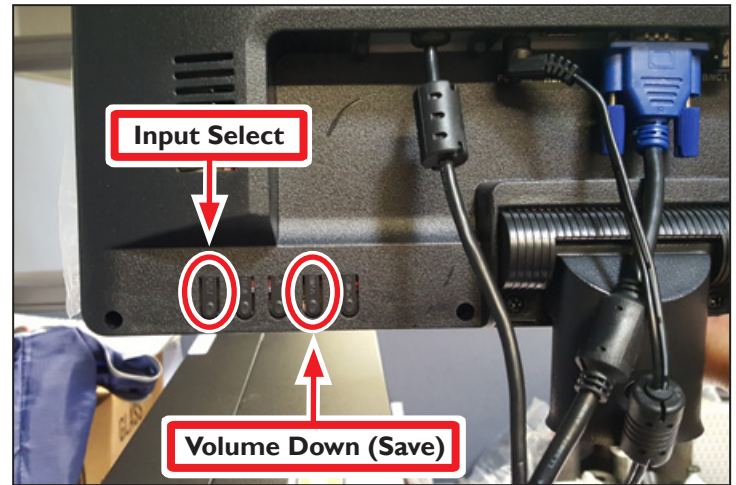

Figure 4
2. If the screen displays an error message or a blue screen, toggle the Input Select button on the back of the monitor until input is set to VGA; press the volume Down button to save (see **Figure 4**).